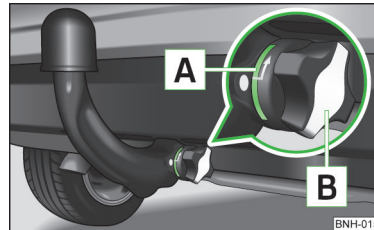

Fig. 10
- ✓ The green marking  » Fig. 10 on the handwheel points to the white marking on the ball bar.